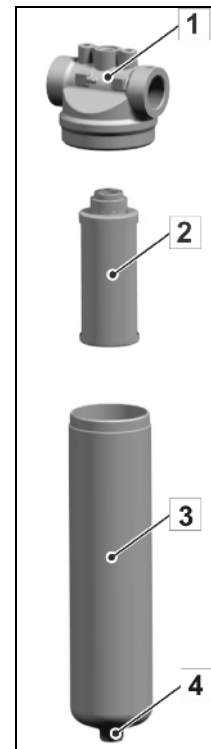

Fig. 7; Filter
- Unscrew the filter bowl 3 (Fig. 7) at the bottom hexagon 4 using a ring wrench.